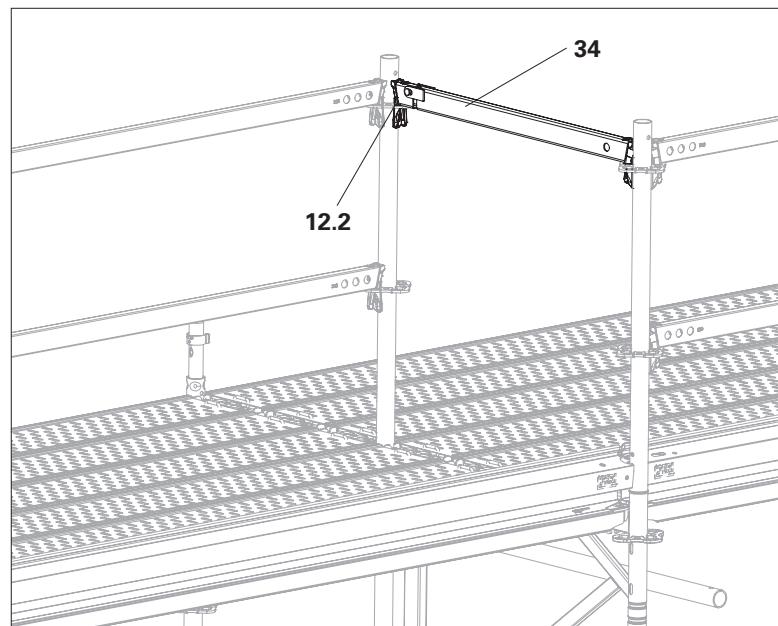

Fig. A5.11
1. Hook the Swing Ledger UPK (34) on both standards (12) into the ledger-to-ledger couplers (12.2) of the rosettes.
2. Secure the wedges. (Fig. A5.11)